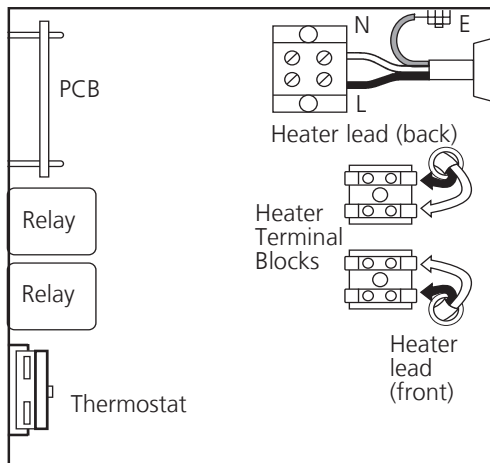

Fig. 3c
24. Thread the four heater connectors through the holes into the electrical control compartment and connect to the heater terminal blocks. Brown to Brown, Blue to Blue (Fig. 3c).